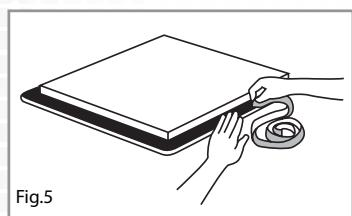

Fig.5
2. Position the hob seal, as shown in the diagram below (Fig 5), ensuring that the ends meet without overlapping. Do not use silicone type sealant.